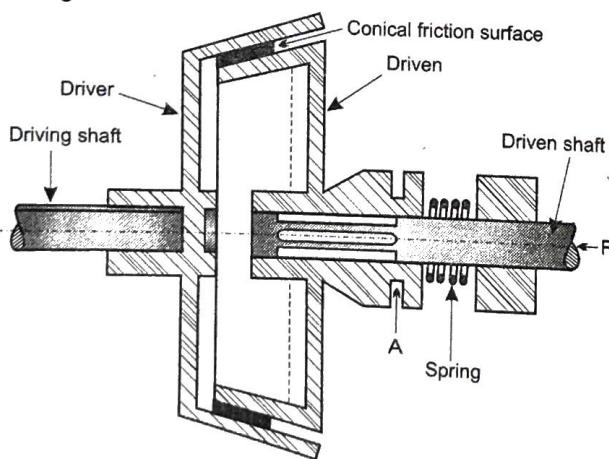

Fig. 4.33 : Cone clutch
- The operation of this clutch is similar to single plate friction clutch except the engaging flanges are made conform as shown in Fig. 4.33. The driven member resting on the feather key in the driven shaft can be shifted along the shaft by a forked lever A (as shown in the figure) for bringing the friction surfaces in contact.